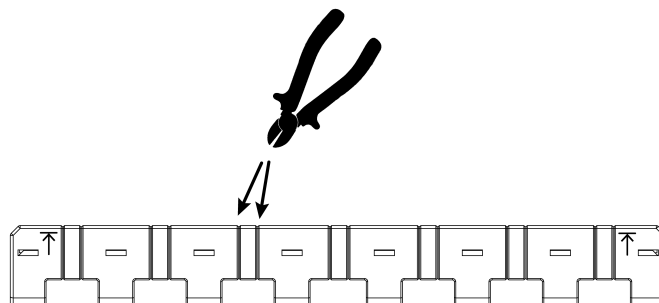

Figure 5: Shortening the phase busbar
- If necessary, cut the phase busbar at the notches using diagonal cutting pliers (see figure 5).